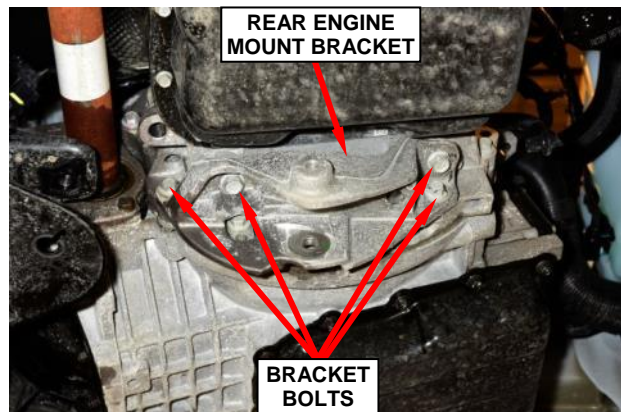

Figure 90 – Rear Engine Mount Bracket
73. Remove and save the rear engine mount bracket bolts (Figure 90).
74. Remove and save the rear engine mount bracket (Figure 90).